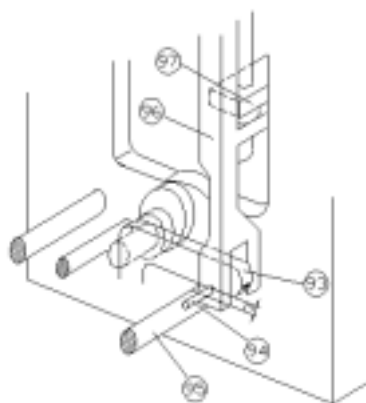
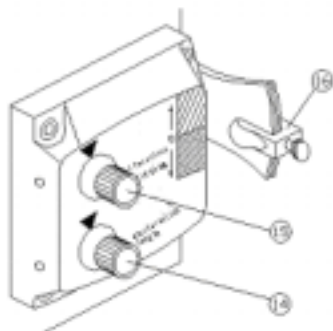
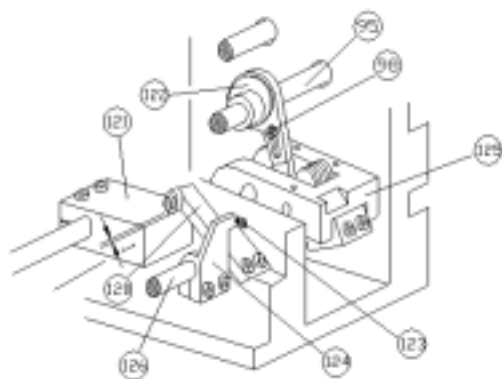

FIG. 28
FIG. 46
FIG. 47
- (f) Remove the connecting pin (94) of the stitch lengthening lever (96) and the stitch adjustment drive lever (93). FIG. 28.
This adjustment is carried out by means of the pressure foot lift drive lever, which can be reached by removing the cover on the rear part of the arm. Place a piece of card or folded paper underneath the pressure feet. With the graduated dial for the adjustment of the length turned completely in an anti-clockwise direction, make 11 holes with a distance of 16 mm between the first and eleventh hole. Fix the lower stop register (98) for the minimum stitch length against the connecting lever (97). Then set the dial at "0" and tighten the dial clamping screw. FIG. 28 & FIG.46. Turn the dial clockwise until the vernier is at position 81/2. Never set the dial beyond this position. Fix the upper stop register (99) for the maximum stitch length against the connecting lever. FIG. 28. In this way the main transport is adjusted. The machine can sew with a saddle stitch and the length of the stitch can be altered at will between a minimum of 1.6 mm and a maximum of 6.3 mm. N.B. - Further adjustments can be made so that the machine can be put to different uses in relation to the multitude of possible applications.
anti-clockwise direction. FIG. 46. Turn the graduated stitch length dial (14) in a clockwise direction and set it at the maximum length. Tighten the screws of the stitch correction lever (120) so that can be placed by hand at a distance from the correction register (121). FIG. 47. Turn the hand-wheel until the needle bar reaches its L.D.C. in the second cycle. With the needle bar at its L.D.C. place the stitch correction eccentric (122) in the position in which the point correction lever (120) does not move when the position of the reversal lever (16) on the adjustment box is repeatedly reversed.
Check that the eccentric (122) and the connecting rod are still in line before tightening the screws of the eccentric. Fix the reversing lever (16) in the lowest position by means of the screw with the knurled head. FIG. 46. Loosen the clamping screws of the point correction lever (120) and the correction register (121). With the needle bar still at its L.D.C. in the second cycle, position the bearing of the point correction lever (120) so that the line of contact with the correction register block (121) is 1 mm from the front edge of the register itself, and then tighten fully the screws of the correction register block. FIG. 47. Turn the adjustment screw (123) in the counter lever until the end of its shank project about 1 mm from the counter lever (124). Block the screw with its lock nut. With the needle bar at its L.D.C. in the
- Moving the correction support (125) toward the lower main shaft (95) produces the longest short corrected stitch in the ((B)) sequence and the shortest one in the ((T)) sequence.
- Moving the correction support (125) toward the spindle (126) of correction lever produces the shortest short corrected stitch in the ((B)) sequence and the longest one in the ((T)) sequence. The effect of these adjustments can easily be seen by observing the variations they cause in the position of the stitch-lengthening lever (96) connected with the stitch adjustment drive lever (93). FIG. 28.
- (g) Loosen the locking nut of the adjustment screw (123) and the two clamping screws of the stitch correction lever (120).
- (h) Turning the adjustment screw (123) in a clockwise direction shortens the short corrected point, while turning it in anti-clockwise direction lengthens the short corrected point.
- (i) Make certain that the adjustment screw (123) is turned with the bearing of the correction lever (120) pushed up against the correction register block (121). After adjusting, fix the adjustment screw with its block nut and block the screws of the stitch correction lever (120) while this rests against the correction register block (121). FIG. 47.